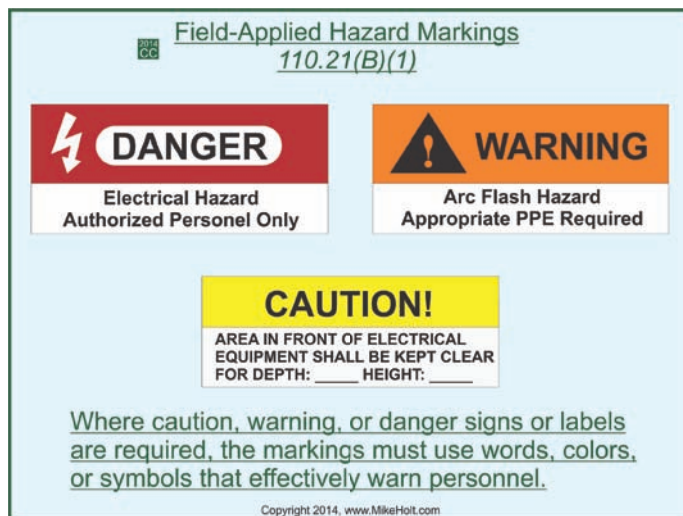

Figure 110-5
**(A) Manufacturer's Markings.** The manufacturer's name, trademark, or other descriptive marking must be placed on all electrical equipment and, where required by the *Code*, markings such as voltage, current, wattage, or other ratings must be provided. All marking must have sufficient durability to withstand the environment involved.
**(B) Field-Applied Hazard Markings.** Where caution, warning, or danger signs or labels are required, the labels must meet the following:
- (1) The markings must use words, colors, or symbols that effectively warn personnel. **Figure 110-5**